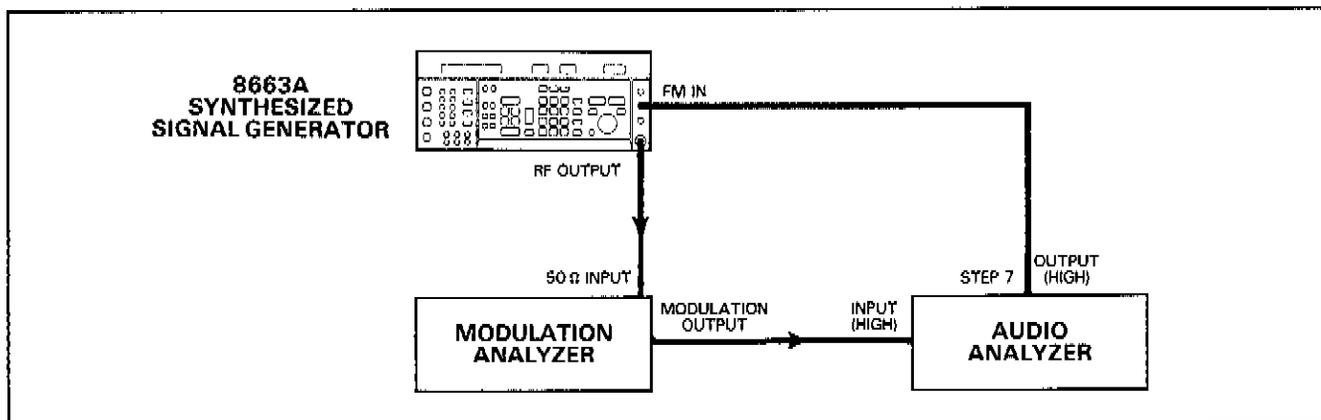

Figure 4-3. AM and FM Test Setup
1. Connect the instruments as shown in Figure 4-3 and apply power. Set the Generator's output amplitude to +10.0 dBm. Set the Modulation Analyzer as follows:
7. Connect the instruments as shown in Figure 4-3. Set the Generator to 100.0 MHz, 100 kHz FM deviation and EXT AC source. Set the Audio Analyzer's output frequency to 20 kHz. Adjust the output level of the Audio Analyzer for approximately 1.49V or until the EXT MOD HI/LO indicators on the signal generator are extinguished. Set the modulation analyzer to measure FM with all filters off. The measured distortion should be less than 1.0%.